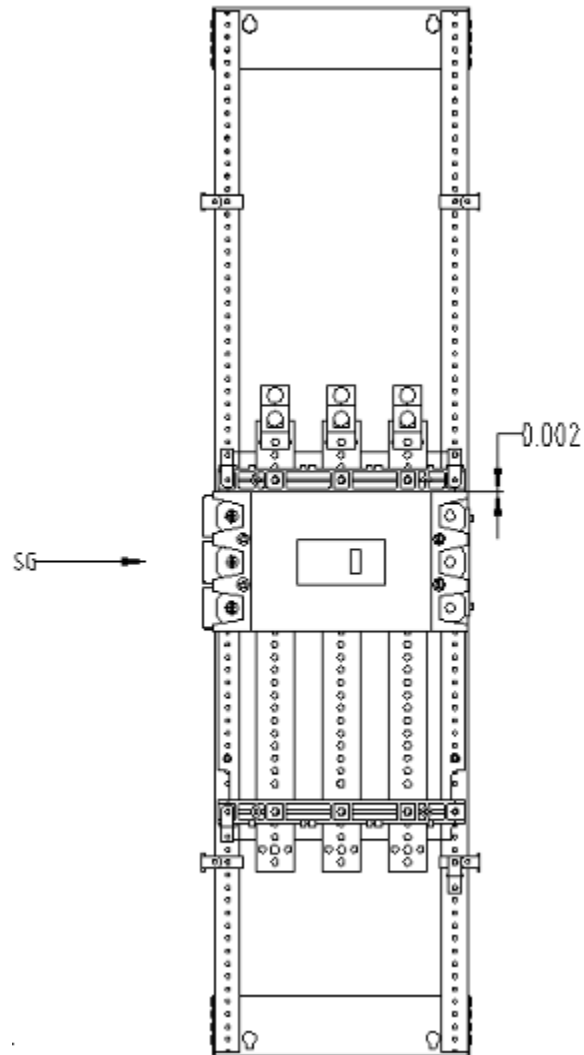

Figure 5. Distance between Crossbar and SG breaker
16. If SG breaker has to be installed immediate after cross bar as shown in Figure 5 then gap between the breaker and crossbar has to be 0.002 inch.